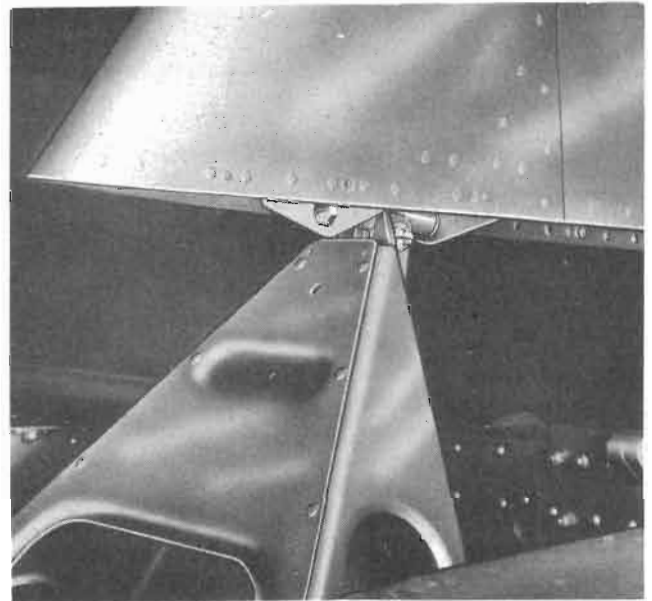

Figure 82 — Fin Installation
(3) INSTALLATION.—(See figure 82.)—Place the fin in position on the fuselage tail; bolt it to the two attachment points to the fuselage bulkhead and to the fuselage tripod assembly.